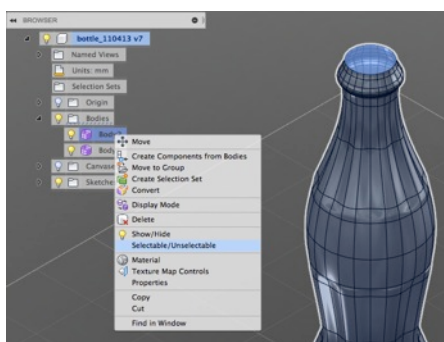

Fig. B13
34. Go to top of menu tree, right click on the file name box and select “paste” (Fig. B13).